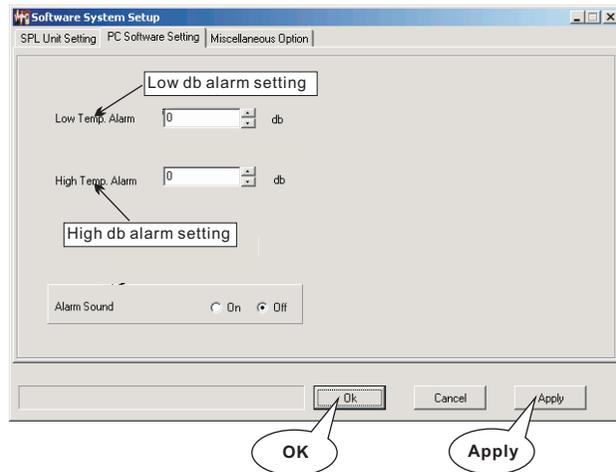

Figure 29
- Click option page PC Software Setting will enter into the window as following picture as shown in figure 29: